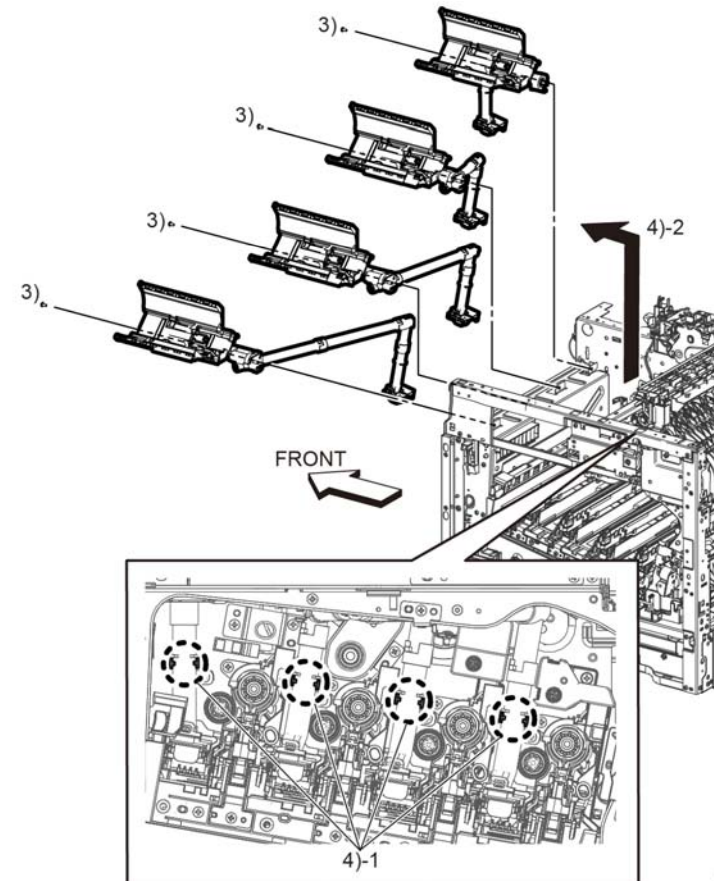

Figure 1 Remove the Dispenser Assemblies
3. Refer to Figure 1 to remove one screw (silver, M3x6mm) from the dispenser assembly (one screw for each Dispenser).
4. Refer to Figure 1 to release the hook holding the dispenser assembly tube to the left-side printer chassis and remove the dispenser (one hook for each dispenser).